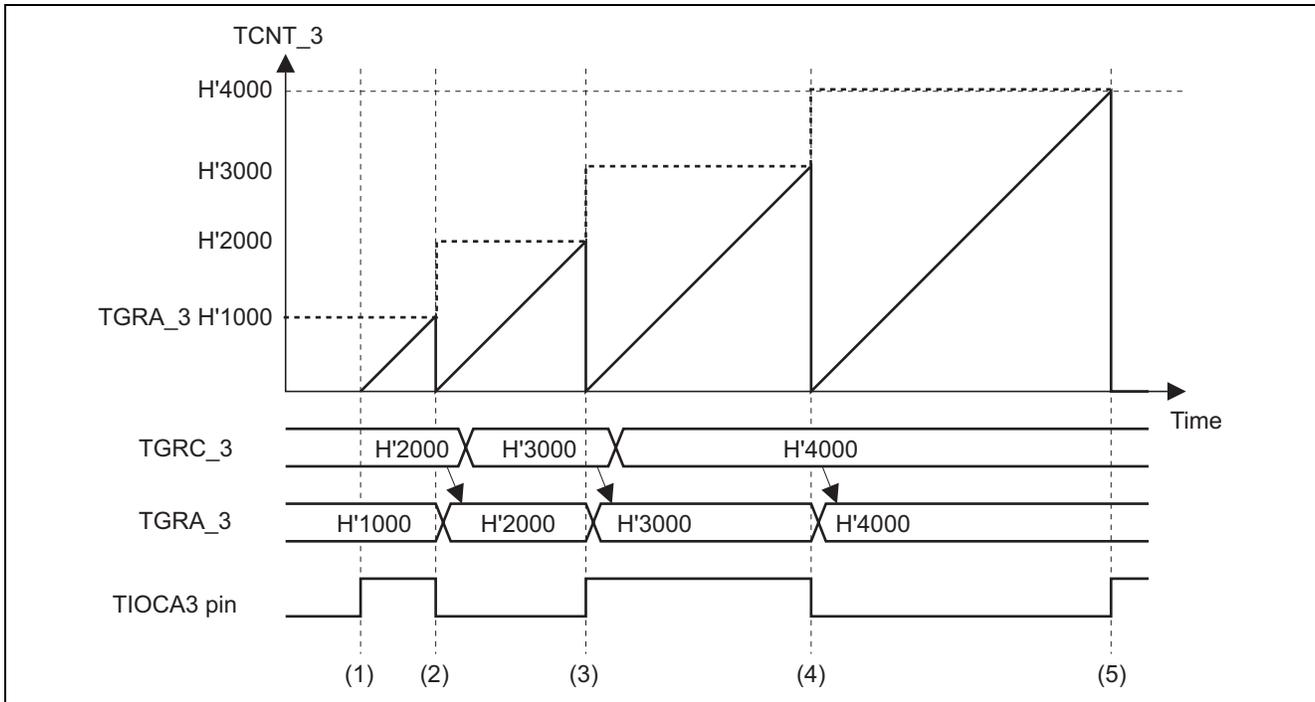

Figure 2 Timing of Pulse Output Operation
Figure 2 shows operation for pulse output by employing buffered compare-match operation of the TPU. TGRA is configured as an output-compare register and TGRA_3 and TGRC_3 are set up for buffered operation. On compare match A, TCNT_3 is cleared and the output on pin TIOCA3 is toggled.
Table 2 describes details of the timing of operations (1) to (5) in figure 2. Consult figure 2 in conjunction with table 2.